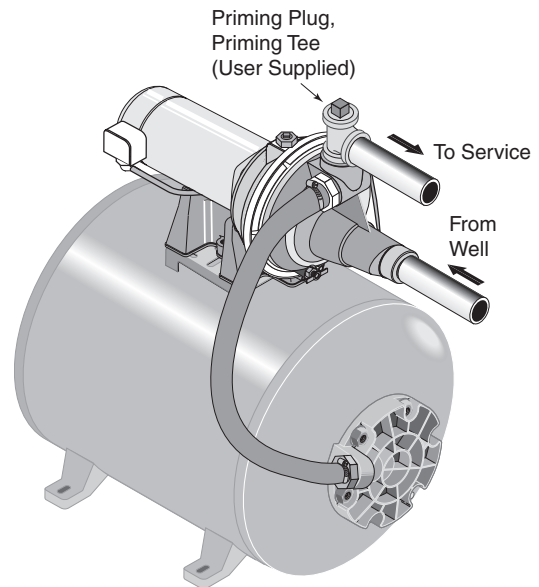

Figure 1
When using a foot valve, a priming tee and plug as shown in Figure 1, are recommended.
NOTICE: To properly prime the pump, install a pipe tee in the discharge piping (see Figure 1, Page 3).
1. Remove priming plug (Purchase separately; Figure 1, Page 3).